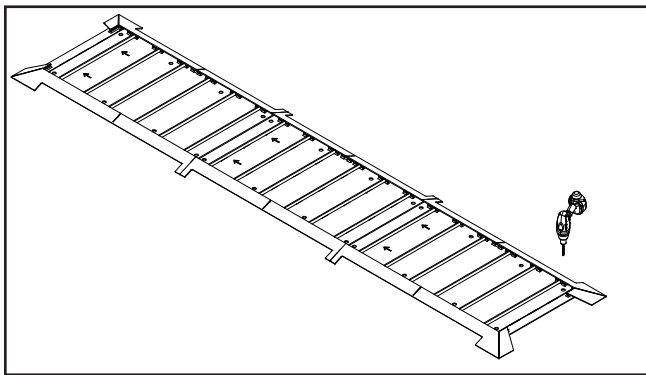

Figure 28
1. Drill two (2) holes in adjacent corners of ground plate, then install (2) anchor bolts in the same drilled holes to hold the plates in place. See **figures 28 and 29.**